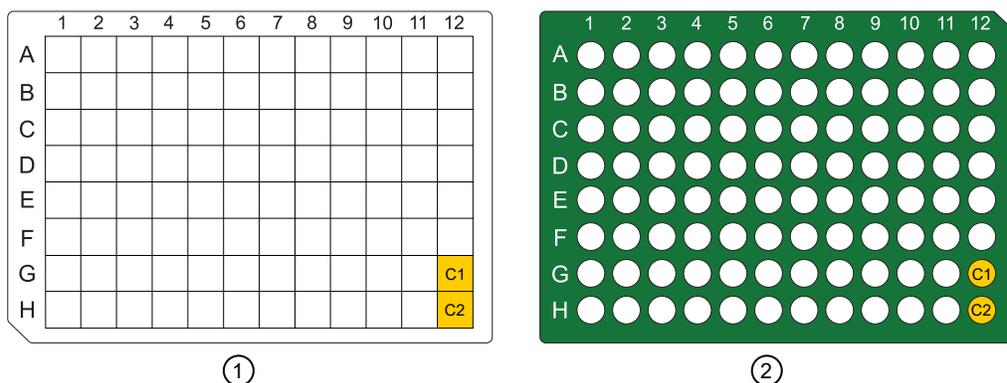

Figure 4 Aliquot genomic DNA to the Amplification Sample Plate and the mPCR Sample Plate.
1. Aliquot 20 µL of each diluted gDNA sample to the 96-deepwell plate. See Figure 4.
1. Aliquot 10 µL of each diluted gDNA sample to the 96-well PCR plate. See Figure 4.